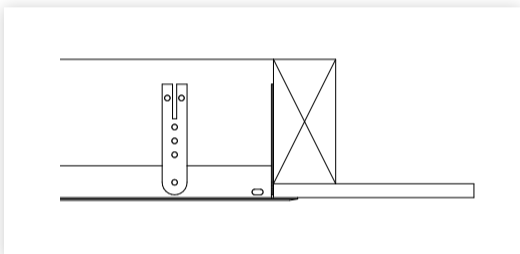

figure 2
4. Fit the hatch frame into the opening, ensuring the flange sits tight to the ceiling. Fix all tabs to the framing timber. See Figure 2.